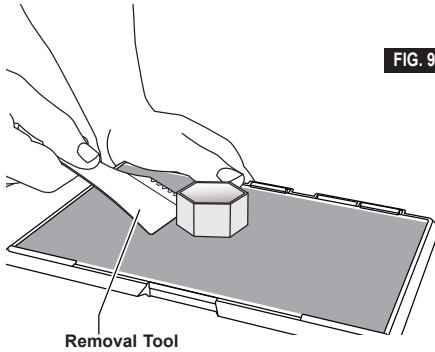

FIG. 9
3. Flex the build plate with the object pointed away from yourself and others. Push on the back of it with your thumbs using your other fingers to hold onto the handles, figure 9. The part will release and will either fall off or be easy to pull off with your hand.
4. For thin or small parts, flexing the build plate may not be enough to release the part. In these cases, gently use the object removal tool to remove the object from the build plate, figure 9.